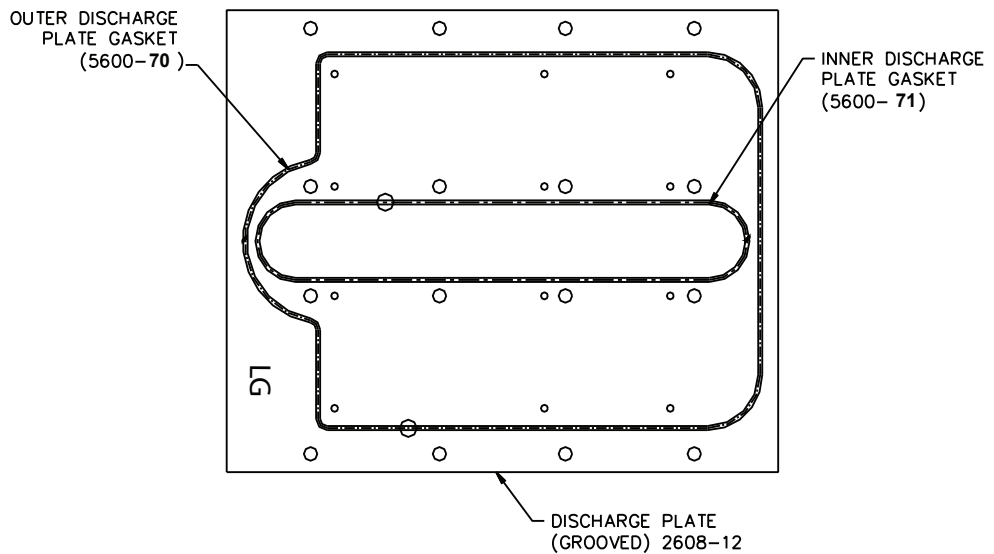

Figure 2. Generator Casting
- Remove the old gaskets from the discharge plate and scrape residue silicon and lime deposits from the discharge plate. Clean the groove of the discharge plate. To install the new gaskets in the discharge plate grooves, as shown in Figure 2. Place discharge plate on the steamer (gasket facing towards generator) so that steam holes line up with the twelve round holes in steam chamber. Place the generator on the above assembly so that mounting holes line up with the sixteen round holes in the discharge plate. Tape the carriage bolts in place from inside steam chamber and then tighten the nuts with lock washers. Remove all tape. Place casting on plate carefully so that holes align properly. Replace screws and tighten securely. Apply a bead of RTV around the edges of the discharge plate and steamer. Allow the RTV to set approximately 24 hours before operating unit.